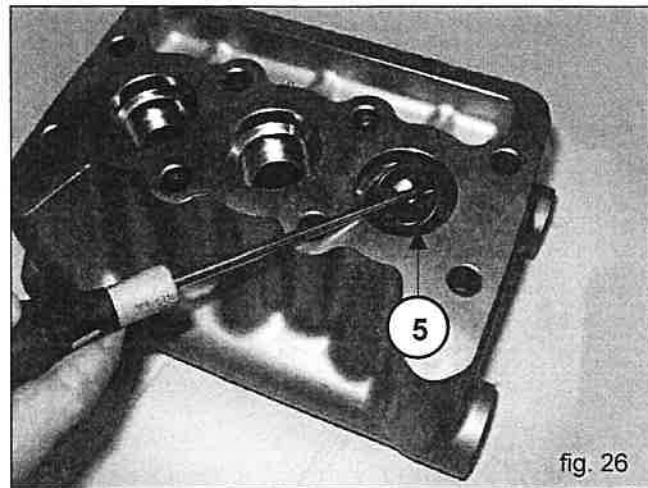

fig. 26
C) Extract the high pressure seals from the head, and the low pressure seals from their related support by using standard tools as shown in fig. 26 pos. ⑤; be careful not to damage the seats.